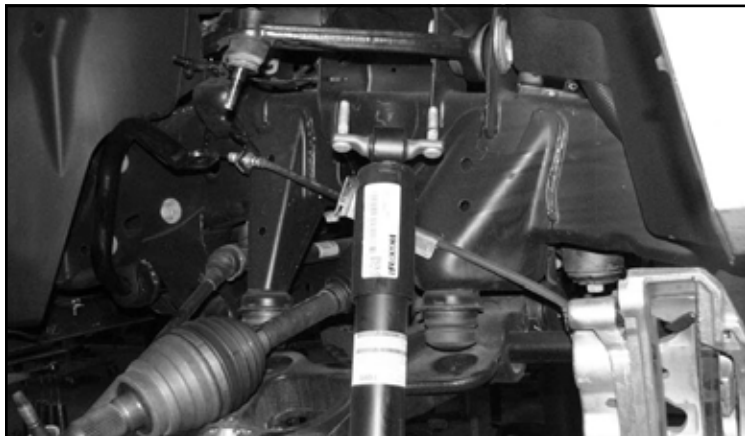

FIGURE 5 - STEP 9
9. Remove and discard the front factory shocks. Save hardware. **SEE FIGURE 5**